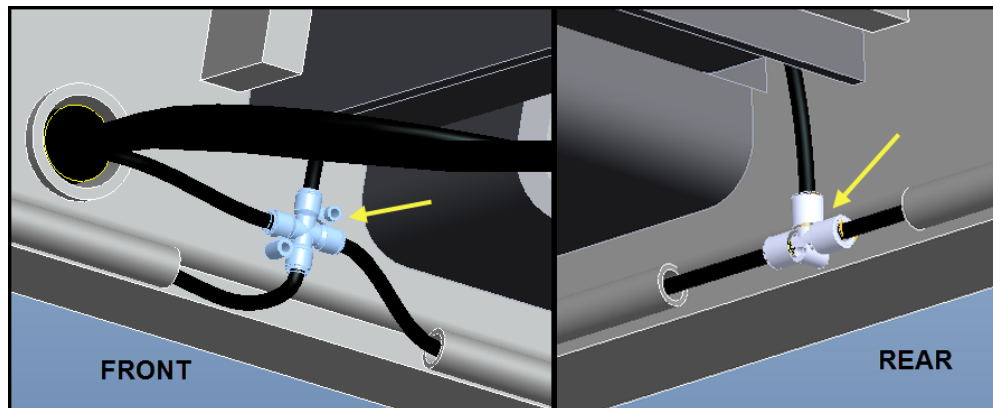

Figure 21. Air Connections
2. Connect the 1/4" polytube from the hose guard (i.e. supply line) to the 1/4" pushlock cross at the front of the left side deck assembly. Connect the opposite end to the FRL assembly. **See figure 21 & 23.**
3. At the rear of the lift, connect the 1/4" polytube from the deck to the crossmember polytubes using the tee fitting. **See figure 21.**